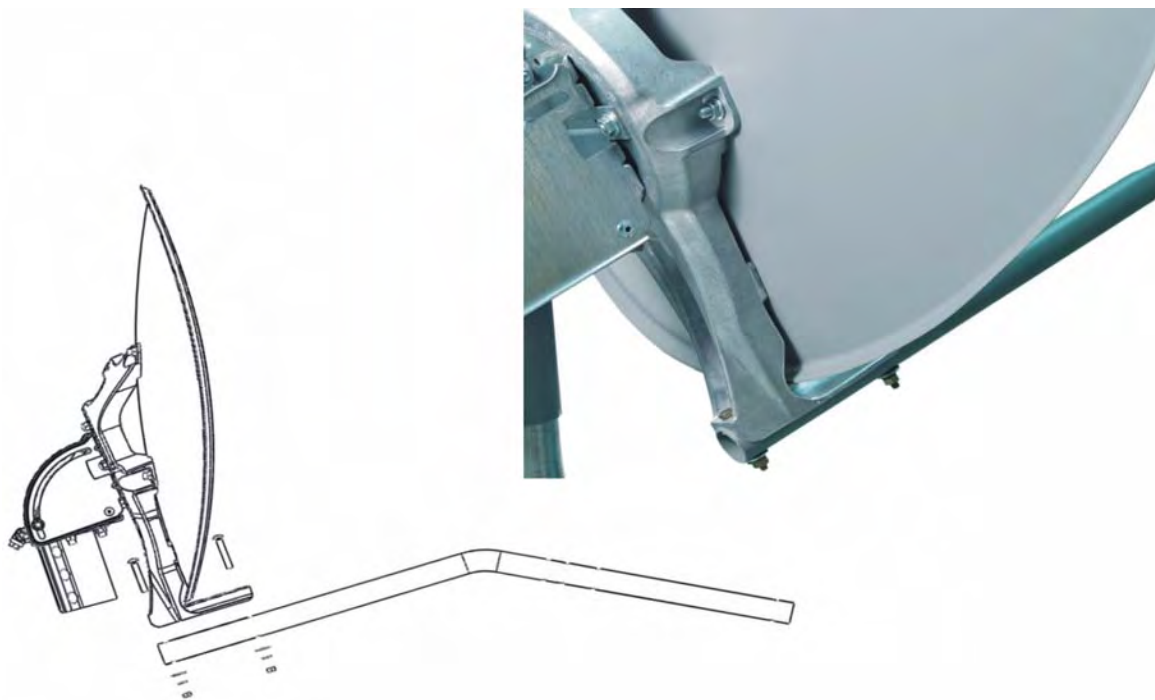

Figure 13: Attaching the feed support arm to the tailpiece
1. Insert the feed support arm into the bottom section of the reflector bracket, as shown in Figure 13.